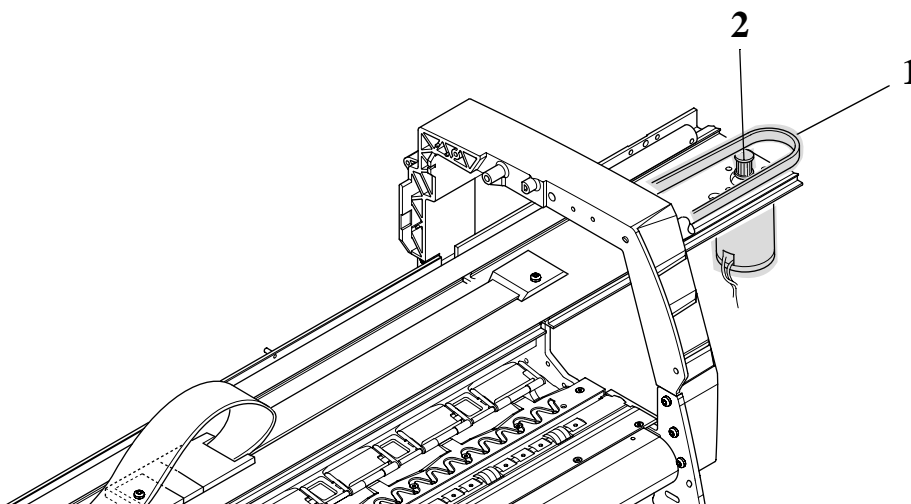

Figure 52: Carriage Assembly and Belt
10. Remove the belt (item 1) from the belt motor pulley (item 2) on the right hand side of the Printer (refer to Figure 52)